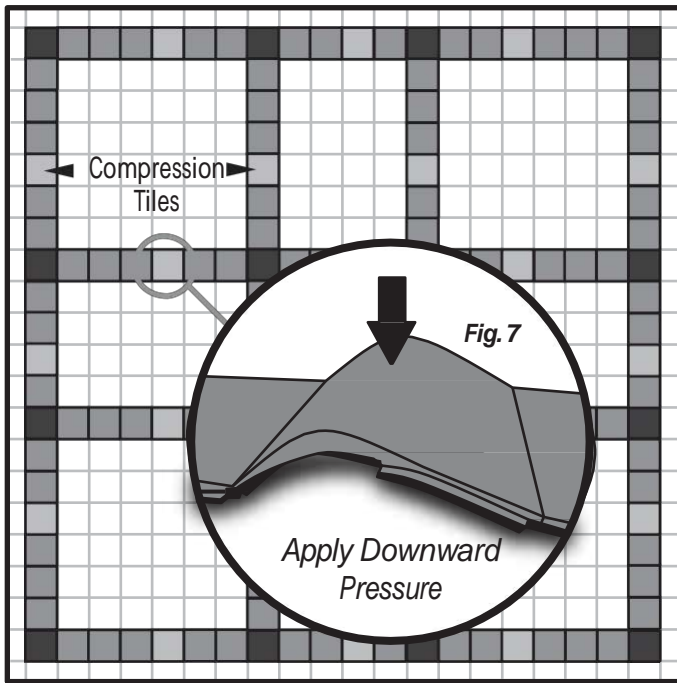

Fig. 6
- The final tile located in the middle of the strategic row is the compression tile and must be compressed into a space smaller than the tile. The process of compressing the tile into this space will force the other tiles to compress in each direction (**Fig. 6**).